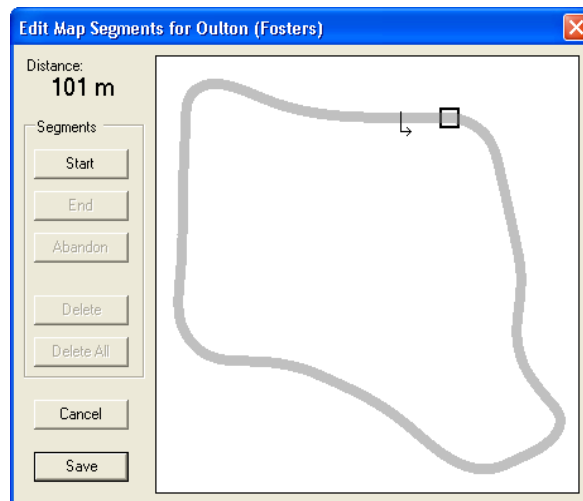

Figure 20 - Edit Map Segments Dialog (No Segments)
2. Choose **Map** ➔ **Edit Segments** from the main menu. The Edit Map Segments dialog (Figure 20) appears.